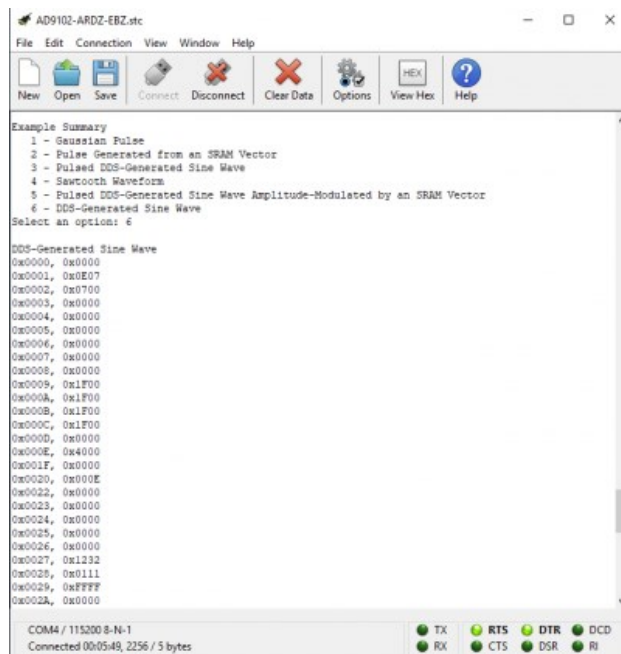

Figure 10. Printing of SPI register addresses and data on CoolTerm
- After selecting an example, the device's register addresses and corresponding data words will be displayed on the console and patterns will be generated at the DAC outputs as demonstrated in Figure 10. Resulting waveforms are shown in Figures 11a to 12c.